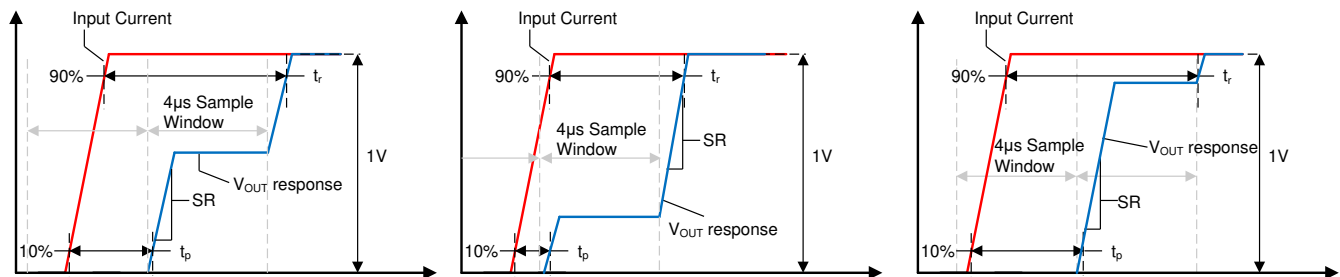

Figure 8-3. Small Current Input Step Transient Response
Slew rate (SR) is defined as the V_{OUT} rate of change for a single integration step's output transition, as shown in Figure 8-3. Because the device often requires two sampling windows to reach a full 90% settling of its final value, this slew rate is not equal to the 10%-90% transition time for the full output swing.
Propagation delay is the time period between the input current waveform reaching 10% of its final value and V_{OUT} reaching 10% of its final value. This propagation delay is heavily dependent upon the alignment of the input current step and the sampling period of the TMCS1100, as shown for several different sampling window cases in Figure 8-3.
Response time is the time period between the input current reaching 90% of its final value and the output reaching 90% of its final value, for an input current step sufficient to cause a 1-V transition on the output. Figure 8-3 shows the response time of the TMCS1100 under three different time cases. Unless a step input occurs directly during the beginning of one sampling interval the response time will include two sampling intervals.